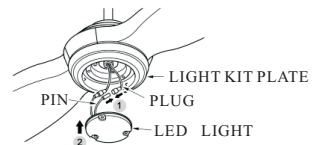

FIG.16
4. Plug together light kit wires from fan to light kit wires from LED light. (see Fig.16)